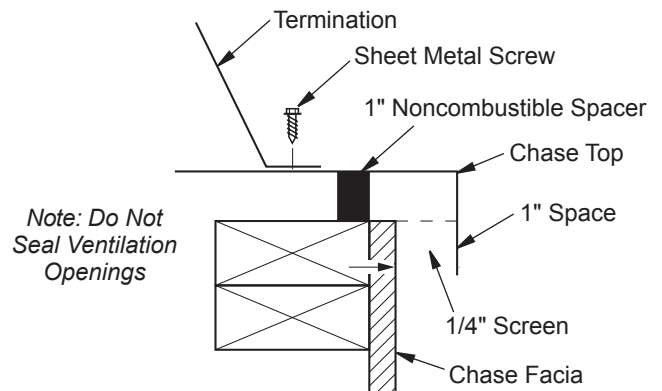

Figure 4 - Securing Termination to Chase Top Flashing with Sheet Metal Screws
- Place termination cap over opening and slip stainless steel inner pipe into stainless steel chimney section. Lower termination assembly until cap rests evenly over flashing hole. Secure cap at each corner with sheet metal screws (see Figure 4).